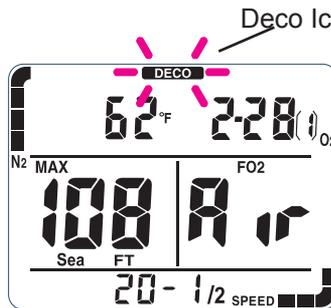

Figure 11
**Decompression stop violation:** If a deco stop is violated, the warning is stored in memory and the DECO icon blinks when the log is displayed. (Fig. 11)